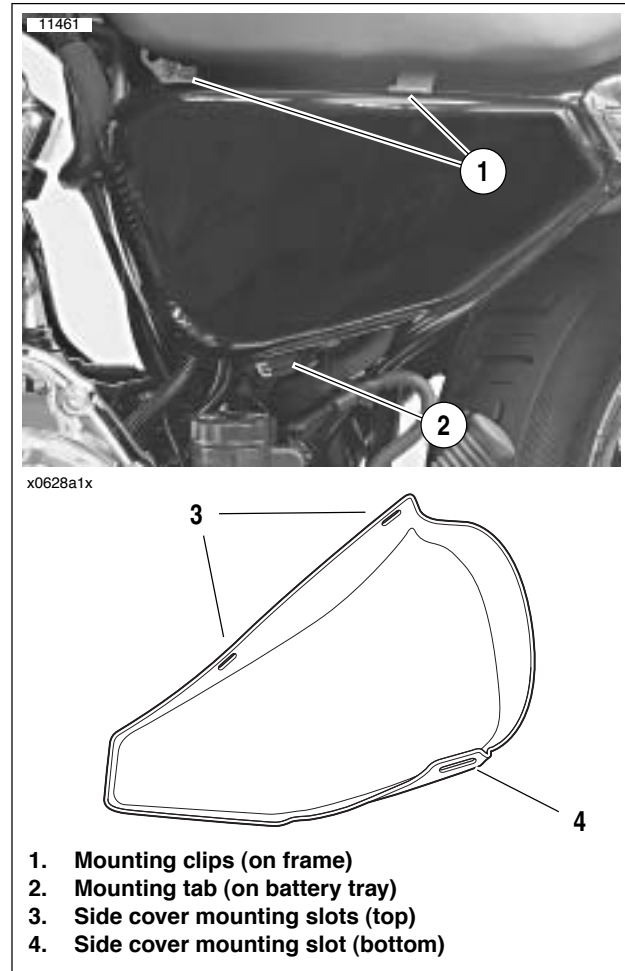

Figure 1-10. Left Side Cover
See Figure 1-10. The left side cover is secured to the motor-cycle by two upper slots (3) that fit into clips (1), and a bottom slot (4) that fits onto a mounting tab (2) on the battery tray.
2. See Figure 1-10. Grasp left side cover at upper corners and gently pull away from plastic mounting clips (1) on frame.
2. See Figure 1-10. Line up top slots (3) of side cover with mounting clips (1) on motorcycle frame, aligning with front clip first. Press top of side cover into clips until snug.
1. See Figure 1-10. Grasp side cover at upper corners and gently pull away from plastic mounting clips (1) on frame.
1. See Figure 1-10. Position side cover over battery tray assembly with slot (4) in bottom of cover resting on mounting tab (2) on battery tray.
3. Line up top slots (3) of side cover with mounting clips (1) on motorcycle frame, aligning front clip first. Press top of side cover into clips until snug.